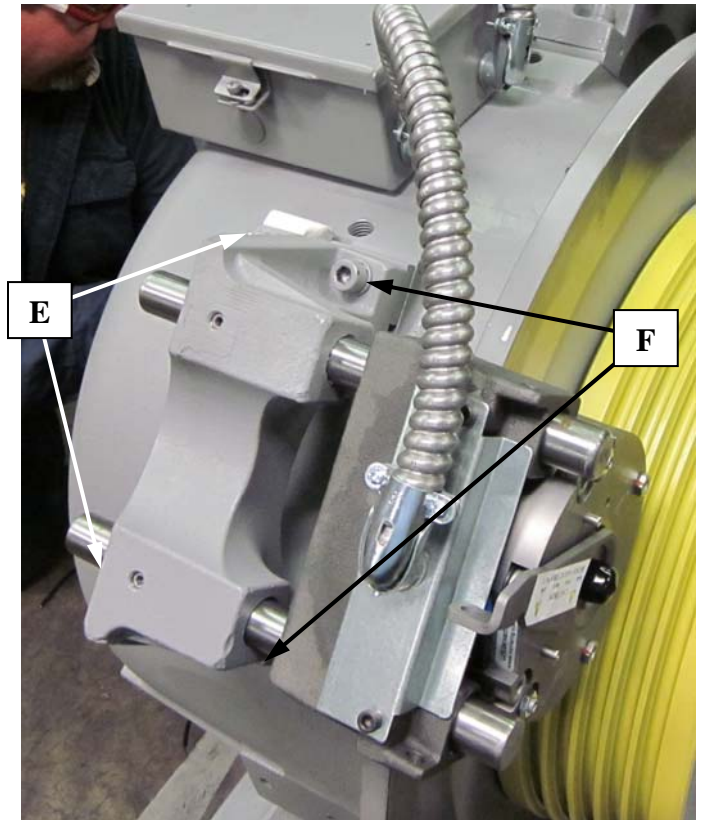

Figure 19
- Air gap can be adjusted by shimming under Brake Base. With the Brake clamping the rotor (de-energized) Use a 3/8" Hex Wrench to loosen (2 per side) socket head screws per instructions as follows. See Figure 19.